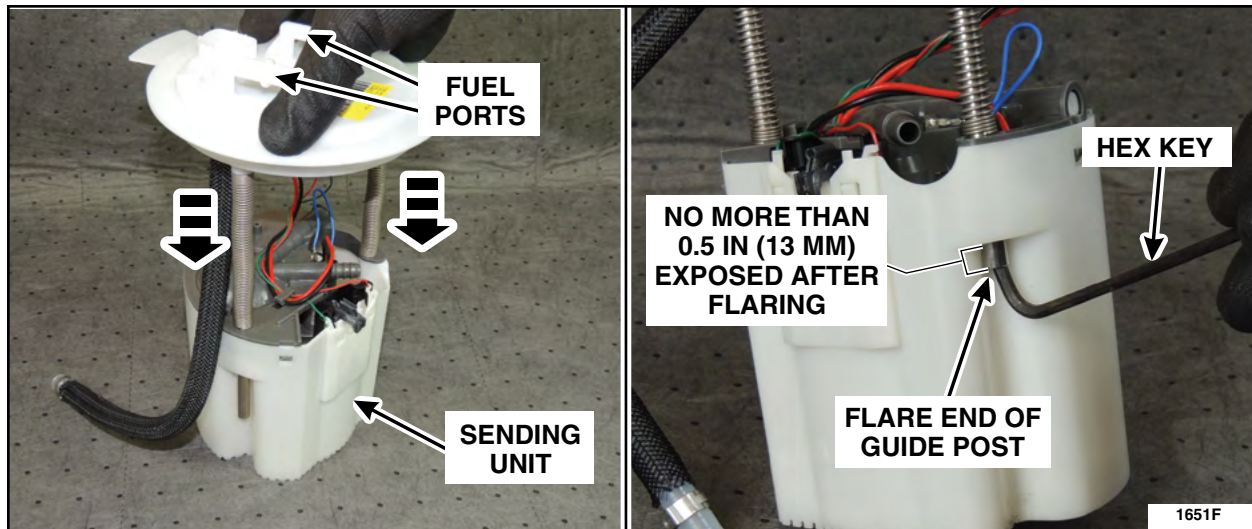

FIGURE 8
8. Install the *new* FDM flange, paying close attention to the proper orientation of the FDM flange to FDM. See Figure 8.